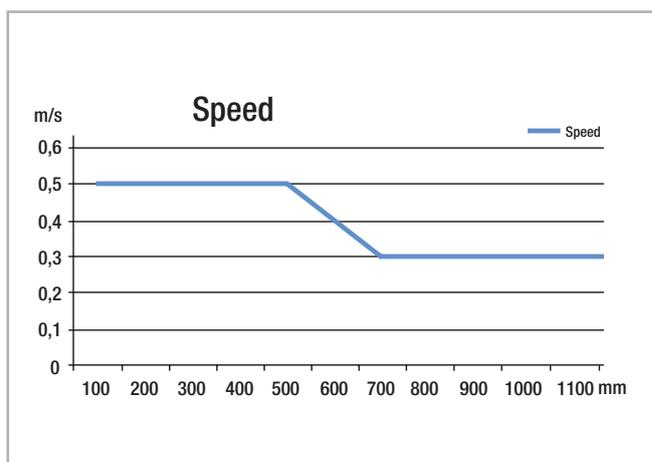

Fig. 25
The extension speed is determined by the size of the intermediate elements. Therefore, the maximum extension speed is inversely proportional to the overall extension of the rails (see fig. 25). The maximum extension speed is also directly related to the applied load and operating time. The indicated data refers to continuous operation at the maximum load capacity.
- Light Rail full and partial extensions are suitable for use in automatic systems. For this, the stroke should remain constant in all moving cycles and the extension speed must be checked (see pg. LR-16, fig.25). The movement of the extensions is enabled by internal ball cages, which could experience an offset from the original position with differing strokes. This phase offset can have a negative effect on the running properties or limit the stroke. If differing strokes occur in an application, the drive force must be sufficiently dimensioned in order to appropriately synchronize the ball cage offset. As an alternative, an extra full stroke cycle can be performed every certain number of cycles, in order to re-phase the ball cage in its correct position.